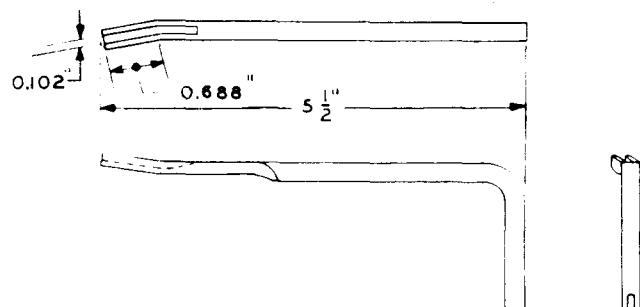

Fig. 3—623A Adjuster Tool
2.04 623A: The 623A tool (Fig. 3) is an adjuster used in adjusting off-normal springs on the 324-, 325-, and 328-type switches.